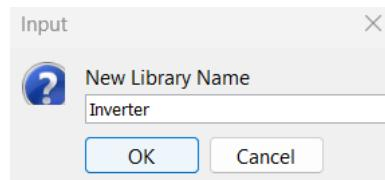

Figure 1.6: Naming the library.
4. Name your library, for example, "Inverter," and click OK (see Figure 1.6).